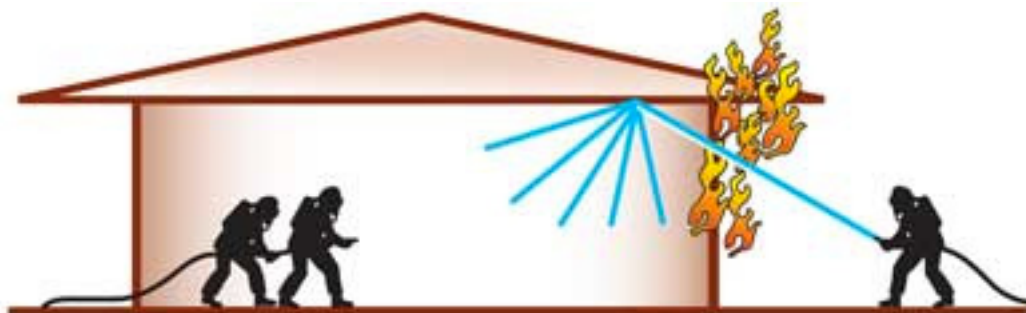

Figure 8. Transitional Attack Concerns
**Transitional attack.** UL's studies have proven that transitional attack reduces temperature throughout the whole structure, not just in the fire room. Most concerns about this tactic involve excess steam inside and on the interior crew making progress. Inappropriate water application (cone pattern stream or moving solid stream) could also possibly prevent the exit of fire gases and steam from the compartment (Figure 8).